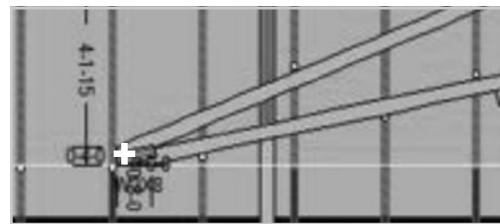

Figure 41
- Click on the bottom/right Conner of zoon area (Figure 41)